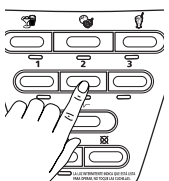

Fig. 24
1. Press the speed 2 button to run the product at a medium speed (Fig. 24).